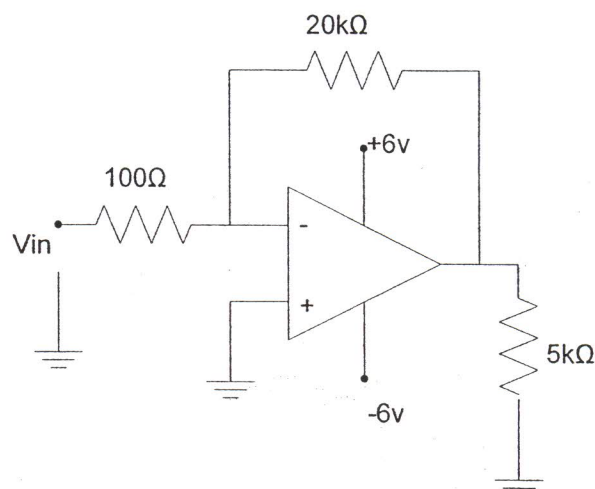

Figure 1
- (b) List out three (3) applications of op-amp. (3 marks)
- (d) Define slew rate (SR). From the data sheet given in Appendix, give the value of SR for op-amp LM741. (3 marks)
- (e) Determine the maximum allowable value of  $V_{in}$  for the circuit shown in **Figure 1**. Assume that the gain of the amplifier is 200. If  $R_L = 5k\Omega$  change to  $10k\Omega$ , find the new maximum allowable of  $V_{in}$ . Assume that the gain remain unchanged. (7 marks)